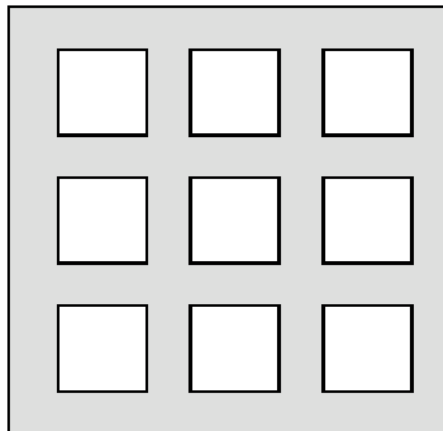

Figure 8. Solder Paste Application on Exposed Pad
3. For the PCB thermal pad, solder paste should be printed on the PCB by designing a stencil with an array of smaller openings that sum to 50% of the QFN exposed pad area. Solder paste should be applied through an array of squares (or circles) as shown in Figure 8.